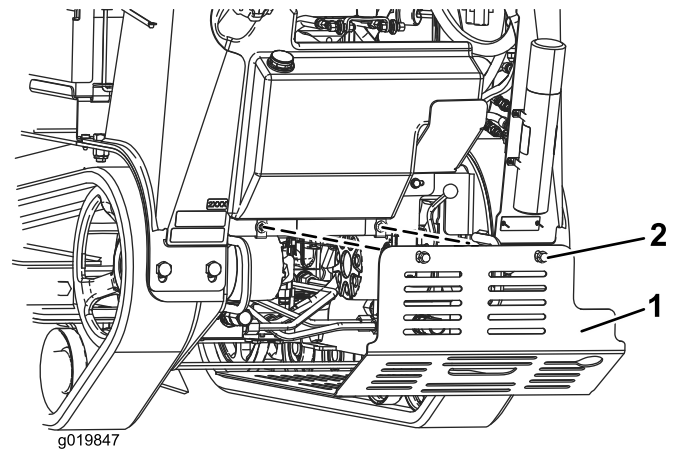

Figure 25
2. Loosen the 2 bolts securing the bottom shield sequentially until the shield is free (Figure 25).
2. Slide the bottom shield into the machine (Figure 25).